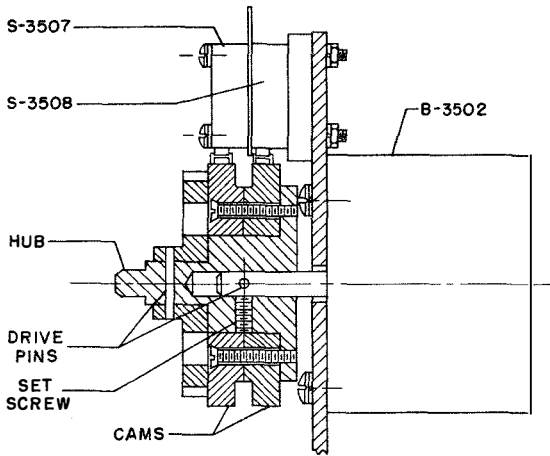

Figure 7-101. Cross Section of S-3514 Assembly
Step 7. With the spur gear, O-3518, and the cams removed on S-3514 assembly, motor B-3502 may be removed and replaced. The hub, on motor B-3502 shaft, must be removed in order to replace motor B-3502, by knocking out the drive pin (figure 7-101) and loosening the setscrew.